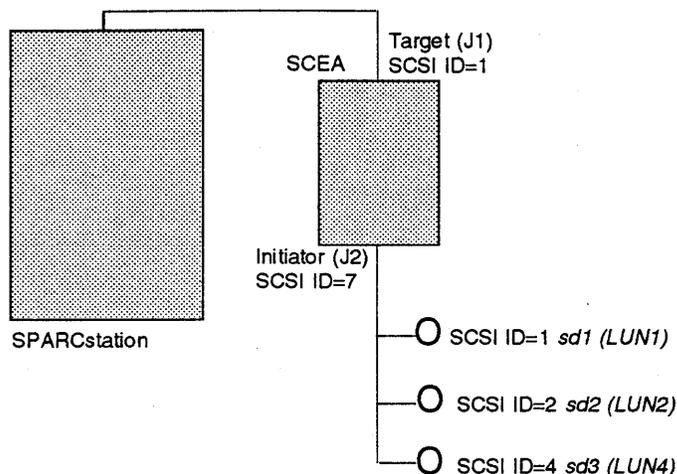

Figure 4-2: SCSI ID and LUN for SPARCstation
- b Add the following statement to show SCSI ID numbers set for the SCEA and its respective devices (see Table 4-1 and the example in Figure 4-2 for appropriate SCSI identification). **DO NOT** edit lines with existing devices!
The following is an example of a configuration file (see Figure 4-2):